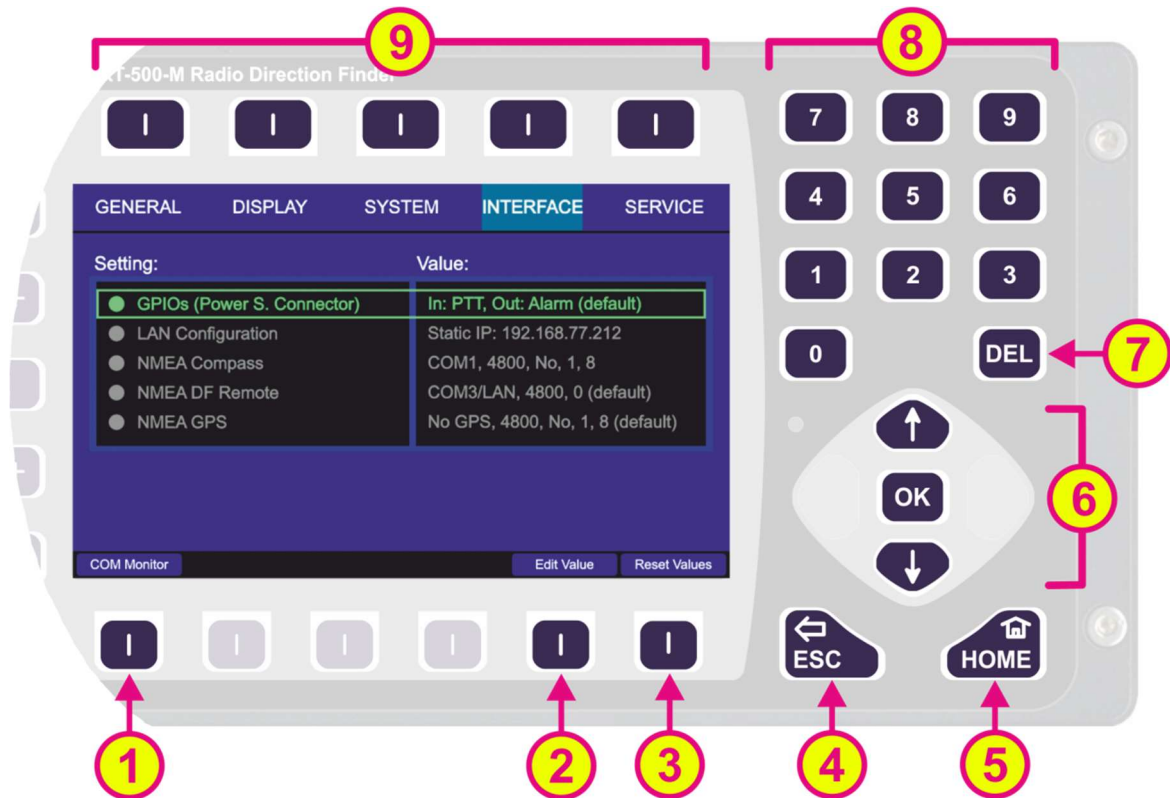

Figure 142. Setup page. Interface settings
- Press the button “OK” or hotkey “Edit Value”, while the setting “NMEA DF Remote” is marked (s. Figure 142).